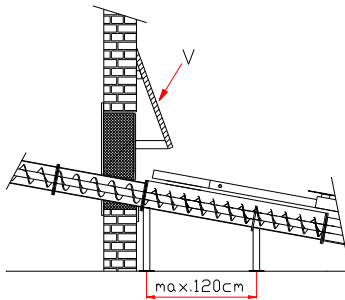

Fig. 3
- 15.) The boarding (V, Fig. 3) over the inspection hatch must be provided on site and prevents uncontrolled spillage of the fuel into the boiler room. A sloping board 3 cm thick and 80 cm wide must be fitted at an angle of approx. 20°, 40 cm above the outfeed auger and 40 cm from the storeroom wall. The structure must be adequately fixed and adequately supported underneath.